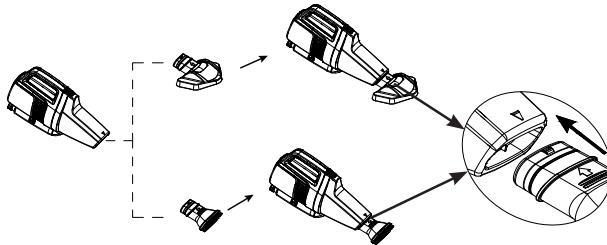

Fig 4
3. Attach the desired cleaning head accessory to the vacuum body cover. See fig 4.
**Note:** Make sure the arrow on the vacuum body cover (3) matches the arrow on the vacuum brush head (4) or vacuum nozzle (5).